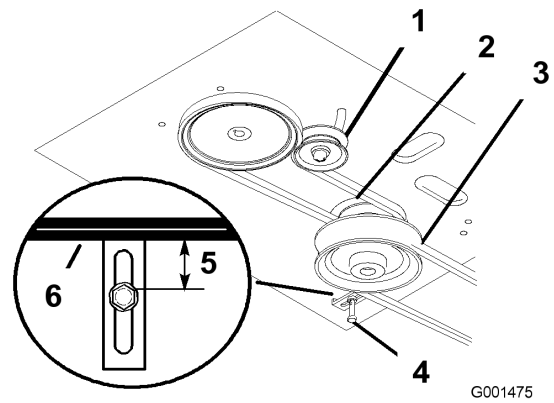

Figure 37
4. Remove the mower belt (Figure 37).
5. Loosen the pivot bolt enough to slide the idler pulley in the slot and remove the traction belt from the engine and the drive pulleys (Figure 37).
6. Install the new drive belt around the engine and the drive pulleys (Figure 37).
7. Slide the idler pulley in the engine frame to tension the traction belt (Figure 37).
8. Install the mower belt (Figure 37).
9. Check the belt guide under the engine frame for the proper adjustment (Figure 37).